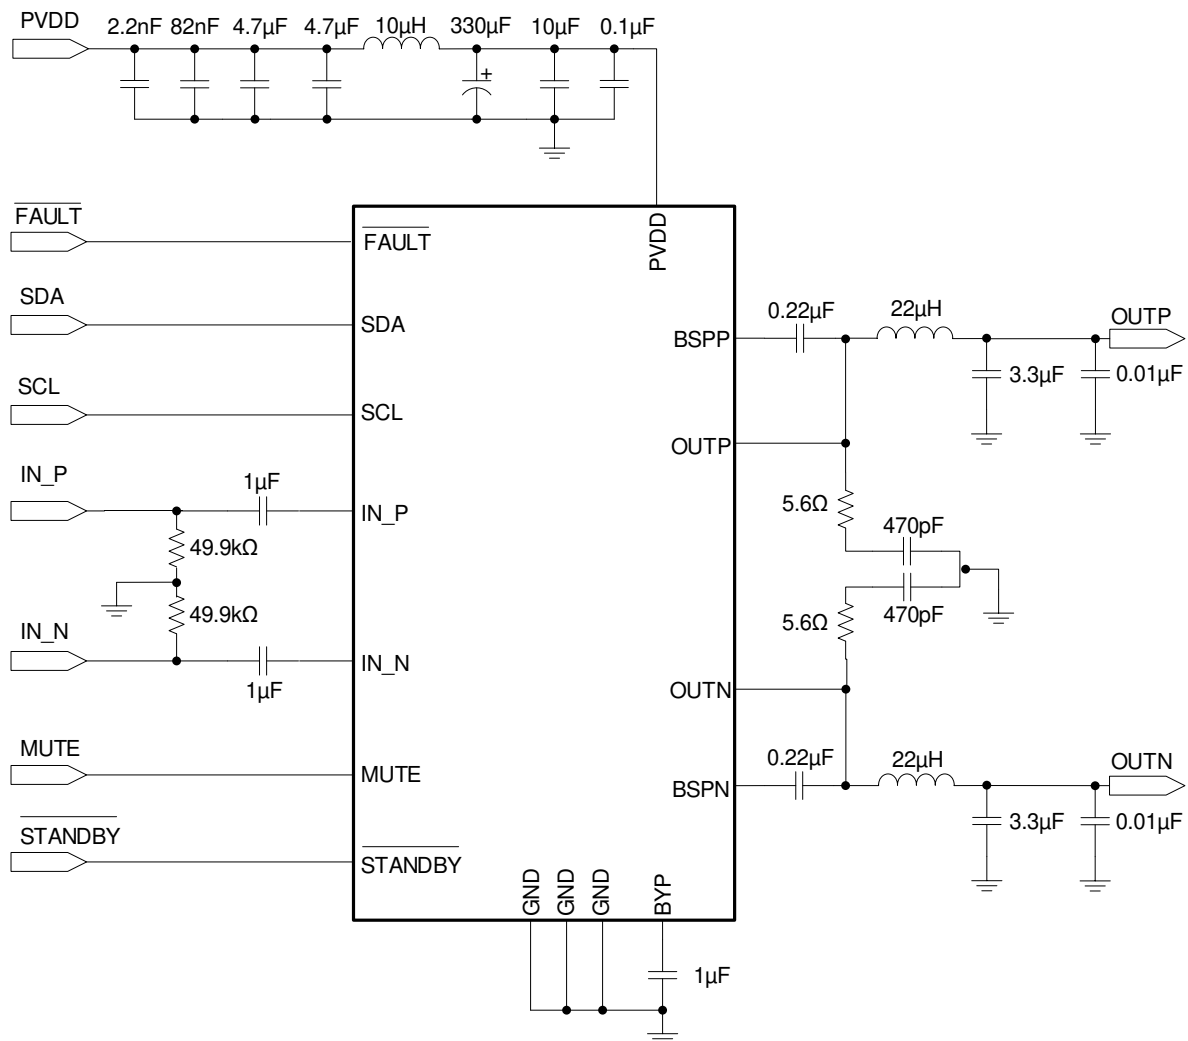

図 8-1. TAS5431-Q1 Typical Application Schematic
The output stage uses dual NMOS transistors; therefore, the circuit requires bootstrap capacitors for the high side of each output to turn on correctly. The required capacitor connection is from BSTN to OUTN and from BSTP to OUTP as shown in Figure 8-1.
- Step 1: Hardware Schematic Design: Using the Figure 8-1 as a guide, integrate the hardware into the system schematic.